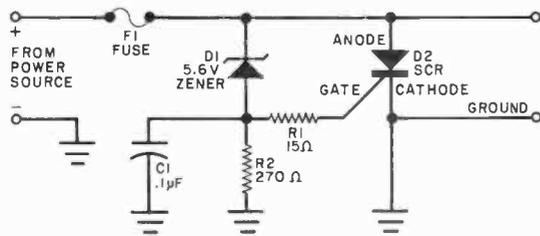

Fig. 9. Crowbar overvoltage protection circuit "fires" when 5-volt line exceeds breakdown voltage of zener diode.
**Overvoltage Protection.** Unfortunately, there are occasions when "something happens" in the regulator that permits the output voltage to rise above the required level. This potentially disastrous situation can be averted with an overvoltage protection circuit like that shown in Fig. 9. This circuit is called a
If you decide to use the crowbar protection circuit shown in Fig. 9, select an SCR that can handle about twice the current normally delivered by the power supply. Also, use a conventional fast-blow fuse for *F1*.